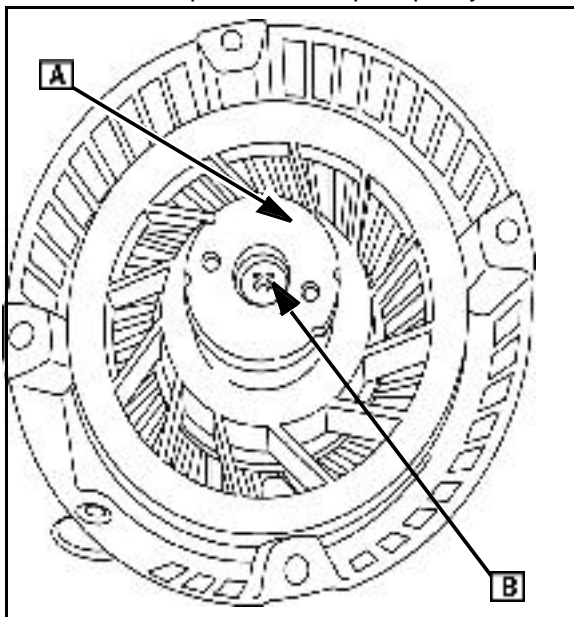

Fig. 27
5. Place retainer (A) on brake spring and partially tighten retainer screw ([B] Fig. 27). Pierced holes on retainer must be between pawls and stop on pulley.